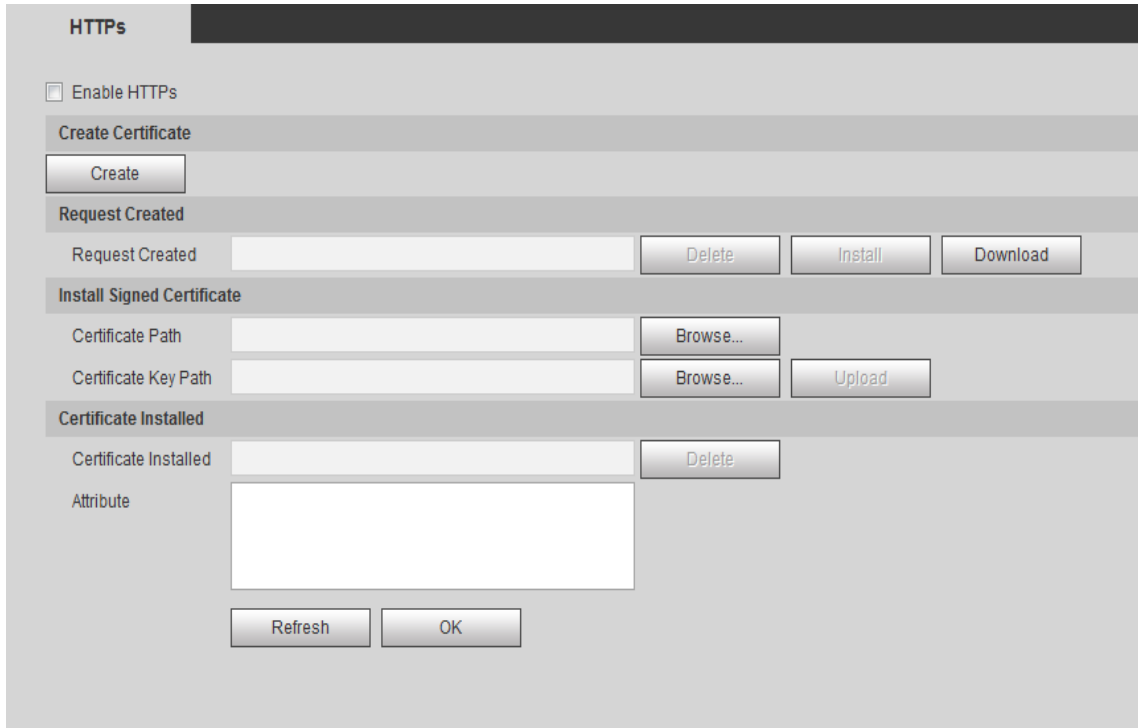

Figure 6-61
Step 1. Select Setting>Network>HTTPS. See Figure 6-61.